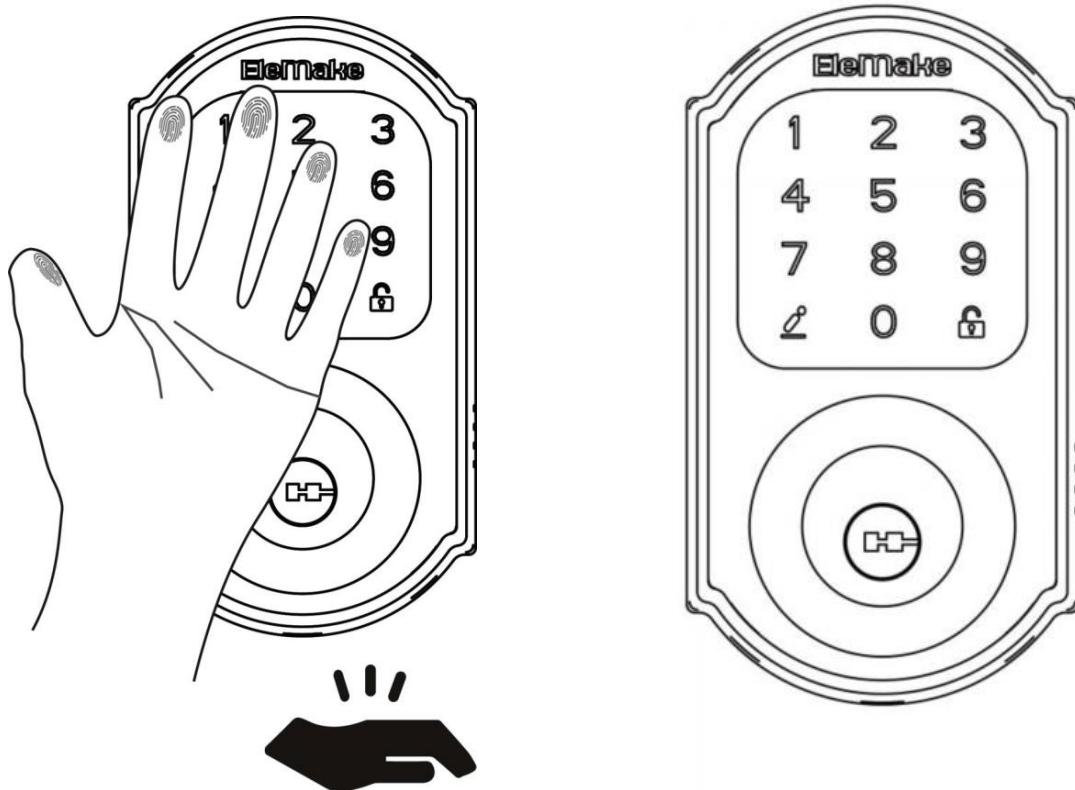

Figure P-1
(1) Password unlocking(See Figure P-1)
(3) RF card unlocking (See Figure P-1)